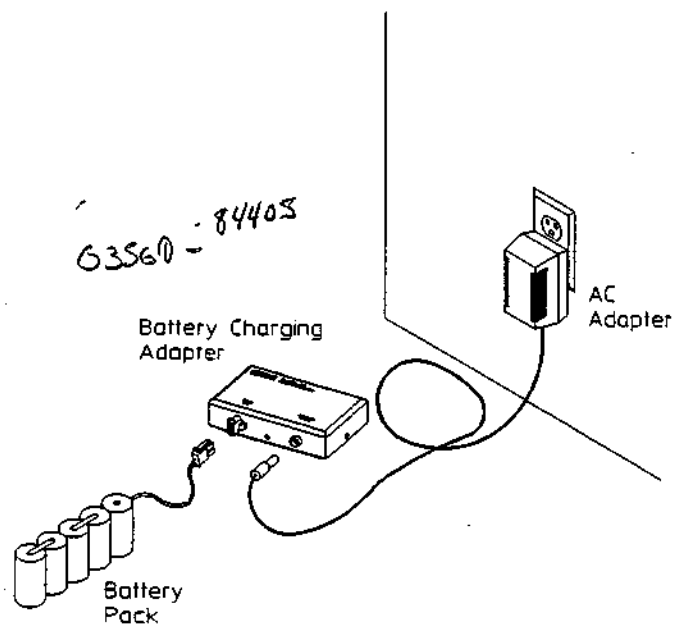

Figure 1-2.
3. Connect the ac adapter cable to the battery charging adapter input. Connect the battery pack to the battery charging adapter output. See figure 1-2.